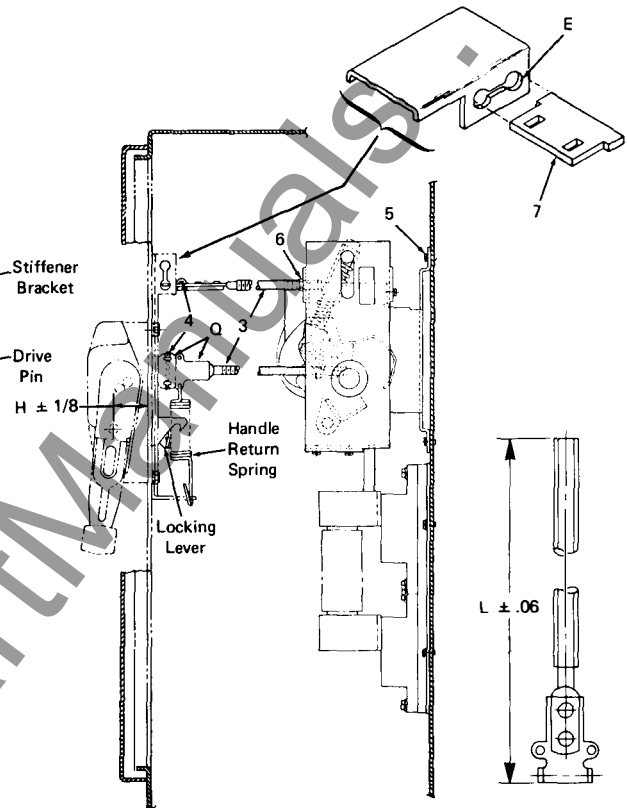

Figure 2
- Install fuse base assembly, item 2, with (4) 1/4-20 x 3/8 screws, item 5.
- Place nut, item 6, on stiffener rod and screw rod into stiffener bracket.
- Insert stiffener coupling, item 7, thru side of handle stiffener bracket at point E (see Fig. 2) and connect stiffener rod, item 5, to stiffener coupling with cotter pin, item 4.
- Tighten nut, item 6, and bend cotter pin on stiffener rod.
- Place operating handle on OFF position (ON position for left hand). Connect operating rod to handle linkage with cotter pin, item 4, at point Q. See Fig. 2. Do not bend cotter pin.
- When adjustment is attained, bend cotter pin and attach handle return spring from Operating Handle Kit. (See Fig. 2)